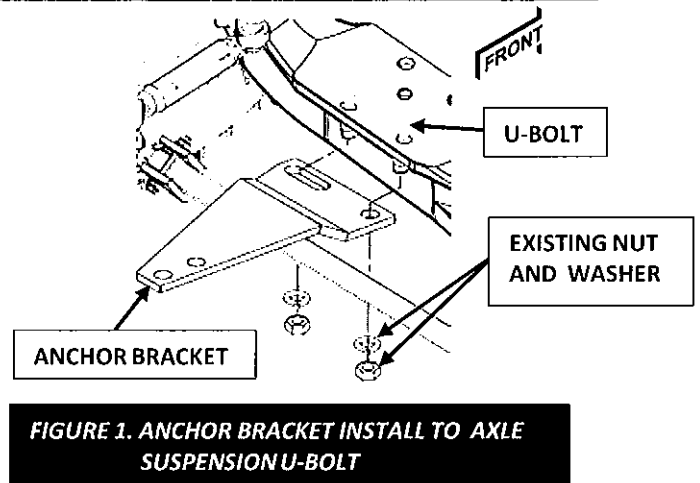

FIGURE 1. ANCHOR BRACKET INSTALL TO AXLE SUSPENSION U-BOLT
- Using a socket wrench with a 1-1/8-inch socket, remove two **existing nuts (and washers if installed)** from axle spring rear **U-bolt** on driver's side of front axle assembly. If **nuts** are difficult to remove, apply penetrating oil lubricant and re-attempt removal using a breaker bar or impact wrench for assistance (*Figure 1*).